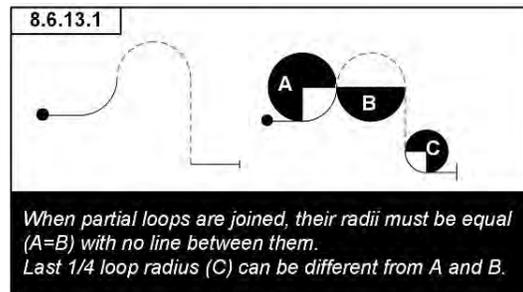

Figure 49
When 1/4, 1/2m, or 3/4 loops join each other in these sub-families, the radii must be equal and there is no line between the loops. Inserting a line between joined loop segments requires a minimum two (2) point deduction depending on the length of the line (Fig. 49).